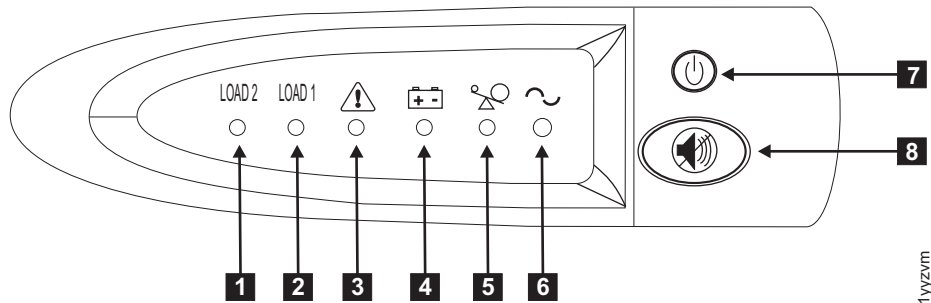

Figure 27. 2145 UPS-1U front-panel assembly
8. Press and hold the on/off button (**7** in Figure 27) for approximately five seconds. You might need a pointed device, such as a screwdriver, to press the on/off button. The front panel indicators cycle through a startup sequence while the 2145 UPS-1U conducts a self-test.